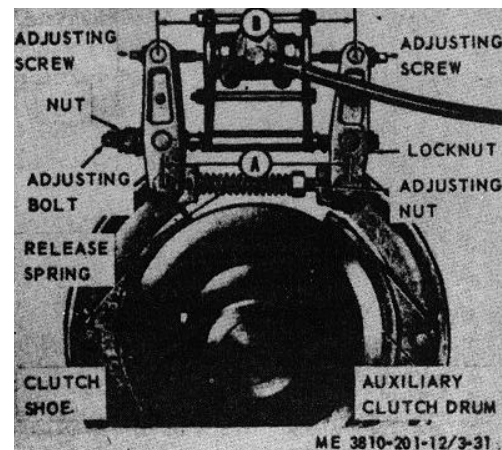

Figure 3-23. Auxiliary (booster) clutch adjustment points.
(1) To compensate for normal clutch lining wear, loosen locknut (fig. 3-23) and turn adjusting bolt. Do not adjust nut for normal band wear adjustment.